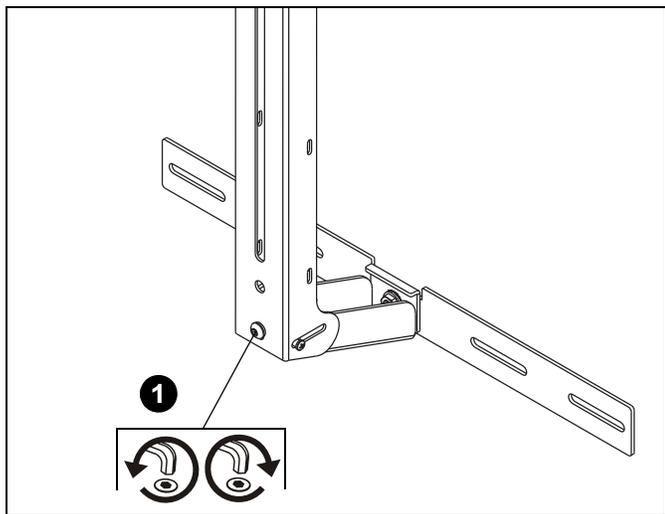

Figure 29
1. Turn the buttonhead screw at bottom of leg (if necessary) to adjust the plumb on lower leg so that it sets firmly against the wall. (See Figure 29)